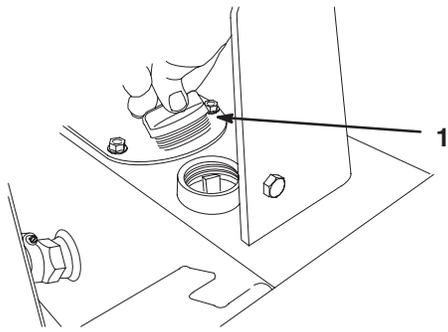

Figure 7
4. Clean the area around the filler neck of the hydraulic tank (Fig. 7).
5. Remove the cap from the filler neck (Fig. 7).